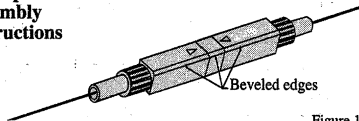

Figure 1
**1.3** Each CamSplice is shipped ready for splicing in an "open position" with its cams 180° apart. To secure the fibers, the cams are rotated into their closed position. When completed, the beveled surfaces of the CamSplice's center section and its two cams are aligned with each other, providing visual conformation that the splice is secured (Figure 1).
**3.21** Actuate the CamSplice by rotating the cams against each other in a clock wise direction. After rotation, the beveled edges of the cams should be aligned with that of the center section as shown in Figure 1. *Do not over rotate the cams.*